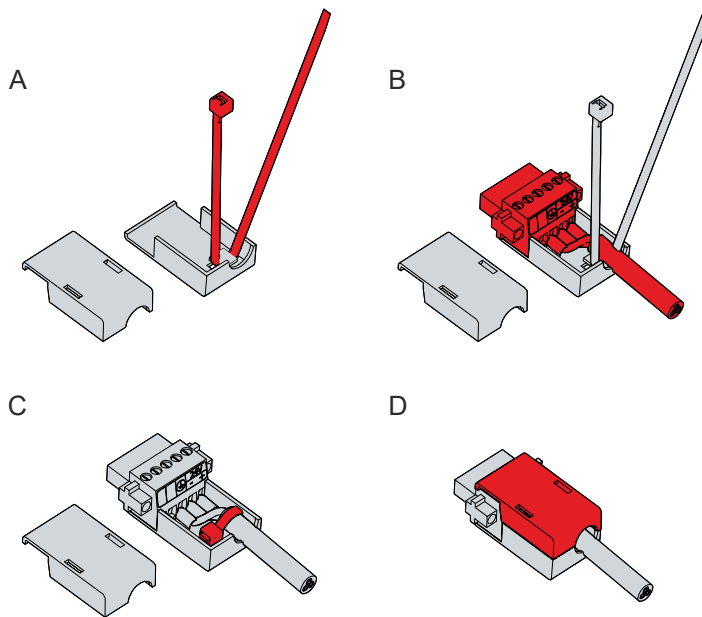

Fig. 14: Assembly of strain relief housing
1. Use your fingers to bend the latching lugs on the lower part slightly outwards (see Fig. 14).